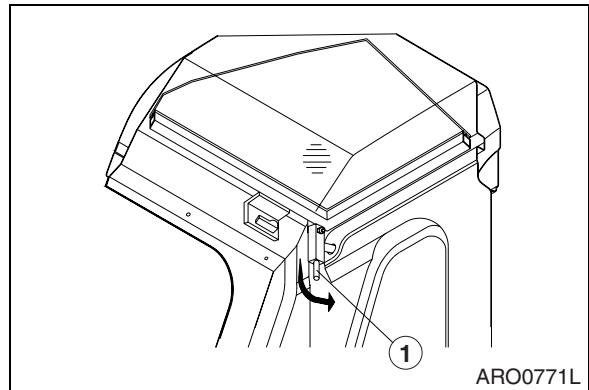

Figure 94
8. Pull lock lever (1, Figure 94) down until pin on lever goes into the hole of cab.